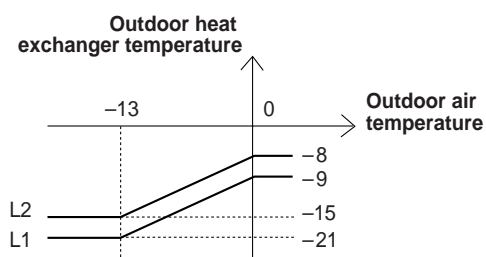

Fig. 1
Non-stop defrost (Refer to Fig. 1 below.) ① After HEAT operation begins, the temperature of the outdoor heat exchanger is at or below the L1 line for 35 minutes. ② After HEAT operation begins, the temperature of the outdoor heat exchanger is at or below the L2 line for 120 minutes.